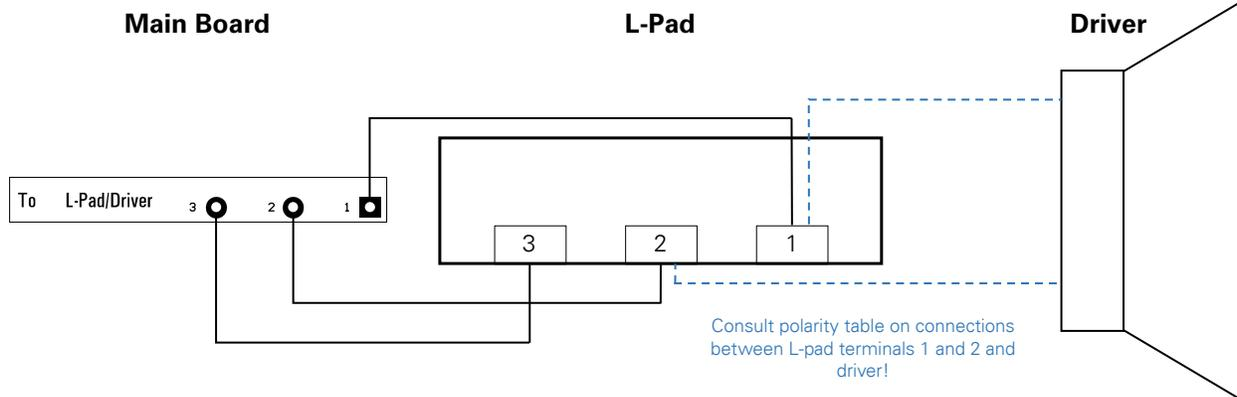

Figure 4: Connections from Main Board to L-Pad to Driver
- [IMPORTANT STEP - Read carefully]** The next step is to connect the three sets of L-Pad/Driver terminals (MF, HF, UHF) to their respective L-Pads and/or drivers. The wires will need to connect from the board to the L-pad (if applicable), and then from the L-pad to the driver. This concept is illustrated in Figure 4, where the connections between the L-pad and speakers are represented with blue dotted lines. The connections between L-pad and the Main Board are one-to-one, as shown in the diagram (i.e. pad 1 on the board goes to L-pad pin 2, pad 2 on the board goes to L-pad pin 2, etc.). The blue dotted lines in the diagram between the L-pads and the driver are meant to signify the variable polarity required for different models of the supported loudspeaker systems. Use the table below to determine the proper polarity for your system. Note that the 4350 and 4355 models are special cases: the 4350 only has one L-pad (on the UHF driver), and the 4355 only has two L-pads (on the HF and UHF drivers). In these two cases, the polarity still needs to be followed per the table between the board and the drivers that do not use L-pads.